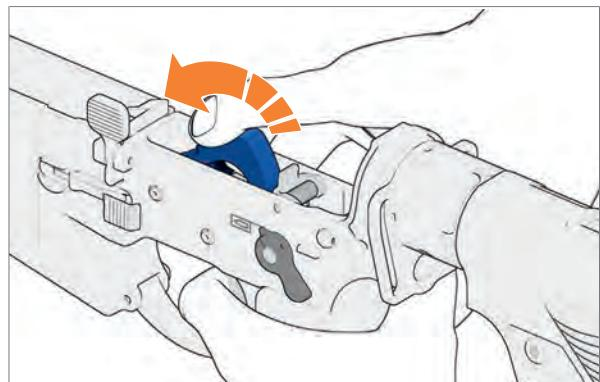

Fig. 17: Slowly guide hammer forwards
4. Pull trigger and guide hammer forwards slowly (Fig. 17).